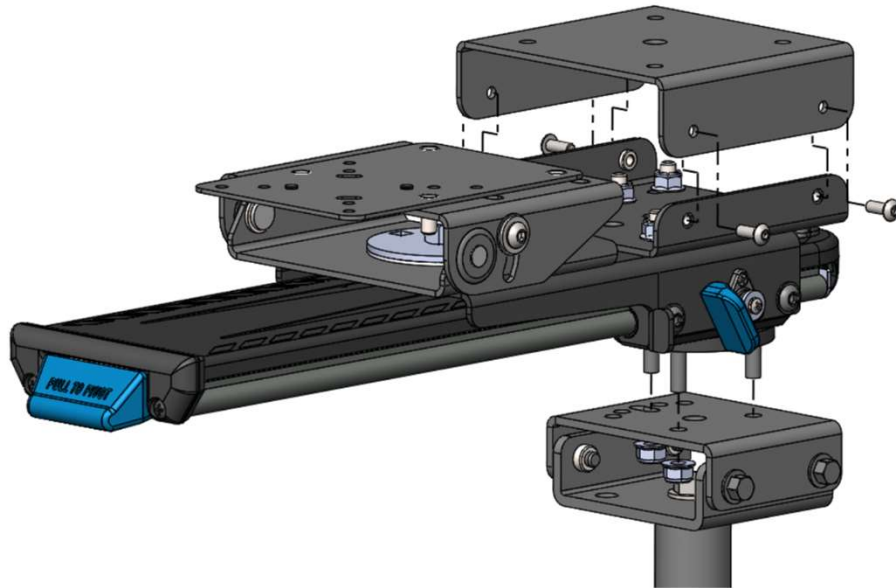

Figure 1
1. The Mongoose XLE mounts directly to a Center Upper Pole (Figure 1) or other type mounting equipment that contains a Gamber Johnson 3-hole pattern cutout (Figure 2).